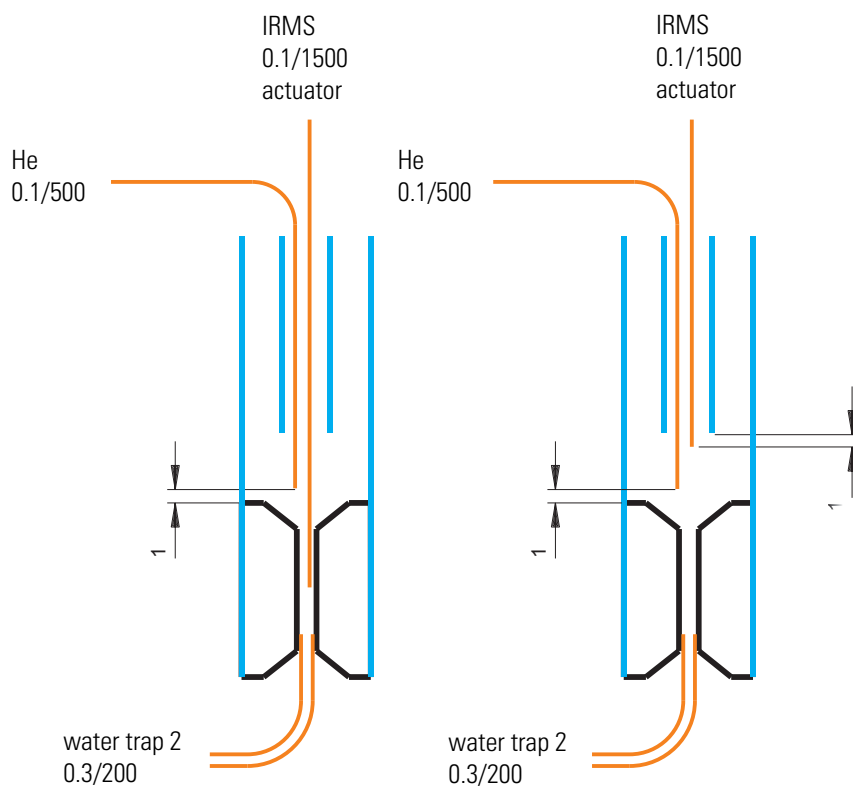

Figure 2-51. Sample injection and dilution
- left side of Figure 2-51: no dilution
- right side of Figure 2-51: dilution active